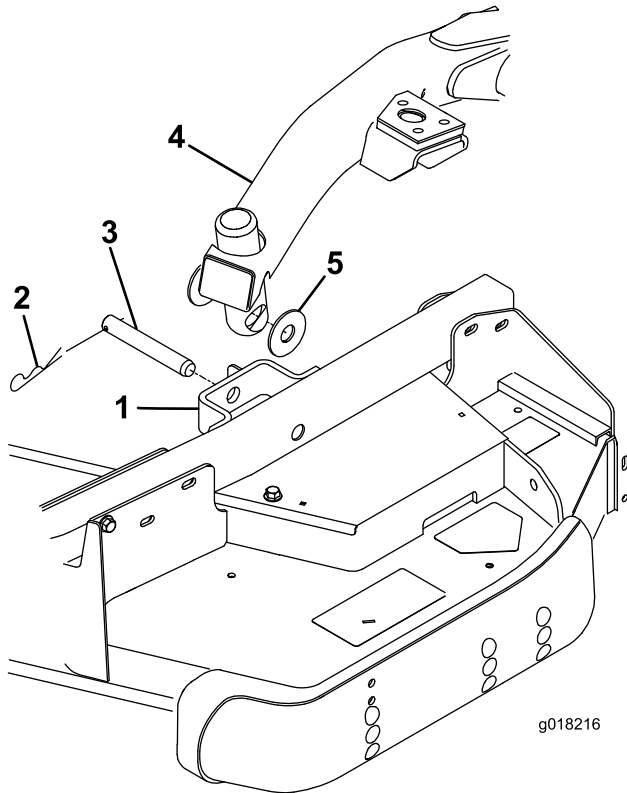

Figure 27
4. Press the lift switch forward to the FLOAT position. Push a lift arm down until the holes in the lift arm line up with the holes in the castor arm bracket and you can insert the height-of-cut rod into the lift arm pads (Figure 27).
5. Secure the lift arm to the castor arm with 2 thrust washers, a clevis pin, and a hairpin cotter, position the thrust washers between the lift arm and the castor arm bracket (Figure 27), and insert end of cotter pin into the slot in the castor arm tab to retain cotter pin.